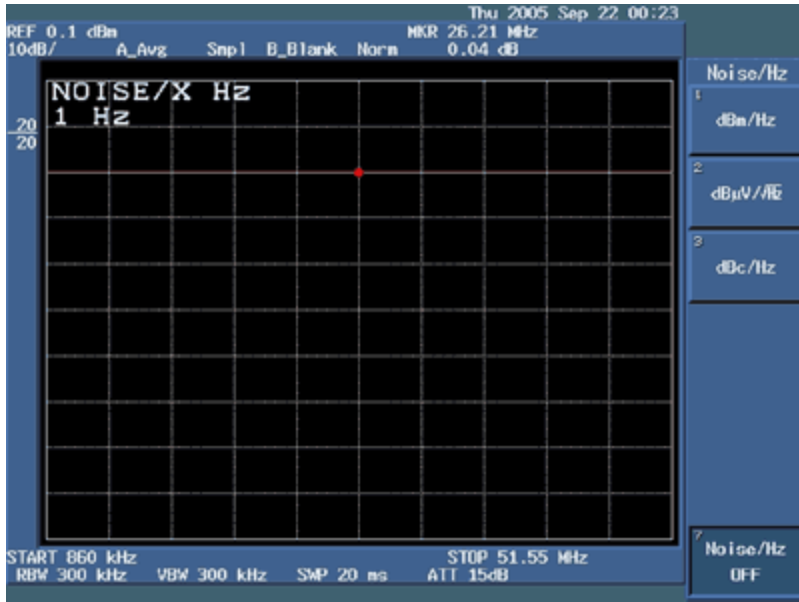

Figure 8. Selecting dBm/Hz for return-loss measurement setup.
4. Press soft key #7 (**Noise/Hz OFF**), as shown in **Figure 8**.